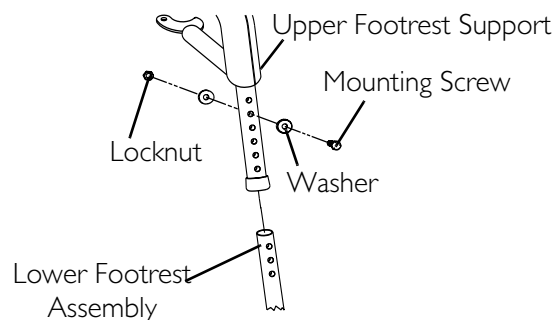

FIGURE 6.3 Footrest Height Adjustment - 70° and PW93
NOTE: For this procedure, refer to FIGURE 6.3.
3. Remove the mounting screw, washers and locknut that secure the lower footrest assembly to the upper footrest support (FIGURE 6.3).